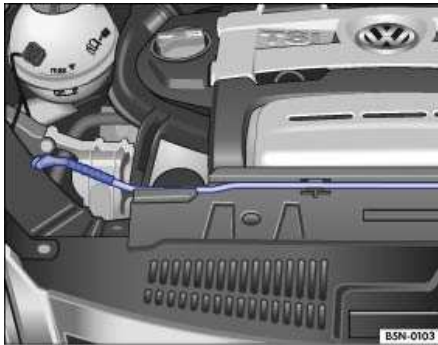

Fig. 7 Engine hood support in its stowed position.
- Pull the engine hood support ⇒ Fig. 7 out of its retainer.